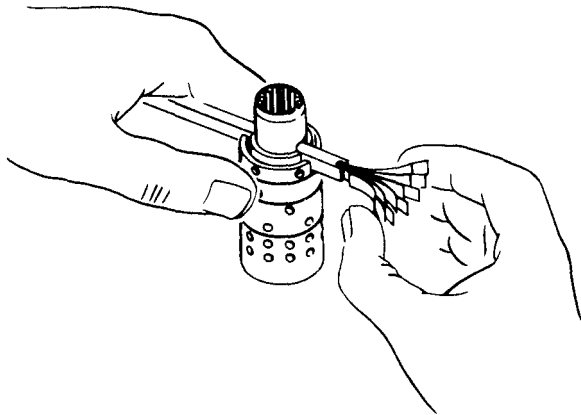

Figure 6-3. Centering Spring installation
b. Use needle nose pliers to install check ball retainer (15). Ensure retainer lays flat.
c. Install check ball (14). Install seals (11 and 13) on check ball seat (12). Do not twist or damage seals.
d. Lubricate and install check ball seat (12) with care to avoid damage to seals. Push seat to bottom of hole.
e. Install setscrew (10). Torque setscrew to 100 inch-pounds (115 kgcm). Setscrew must be slightly below housing mounting surface.
f. Assemble control spool (19) and control sleeve (16) with spring slots aligned at same end. Rotate spool while sliding parts together. Test for free rotation. Spool should rotate freely with fingertip force applied at splined end.
g. Align spring slots of control spool (19) and control sleeve (16) and stand both parts on end. Insert spring installation tool 600057 through both parts as shown in figure 6-3. Position three pairs of centering springs (17, figure 6-2) in two sets of three each so that extended edge is down and arched section is together. Enter one end of spring set into spring installation tool.